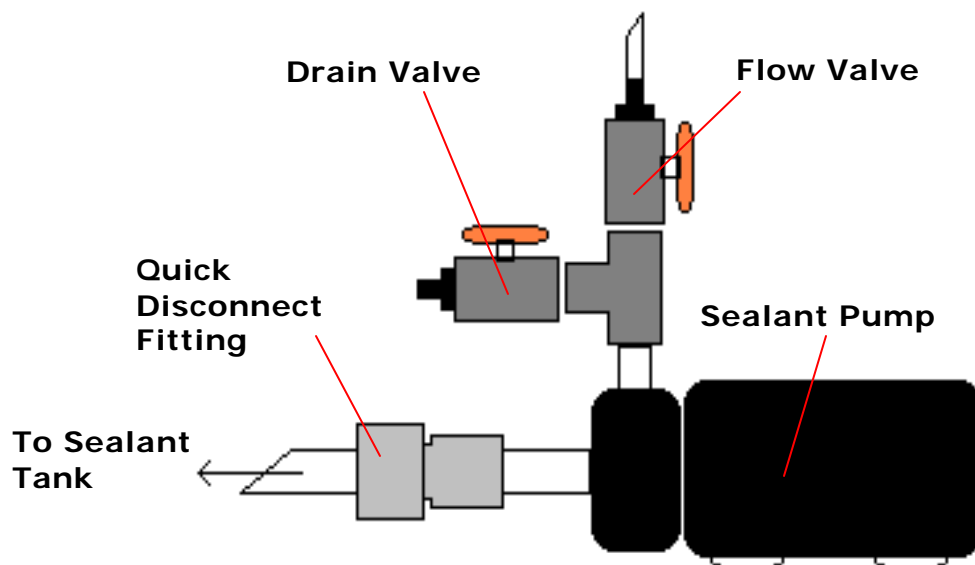

Figure 2-1. Sealant Pump
*All Sealant Pump flow control operations are controlled at the Sealant Pump Valve Assembly as shown in Figure 2-1.*